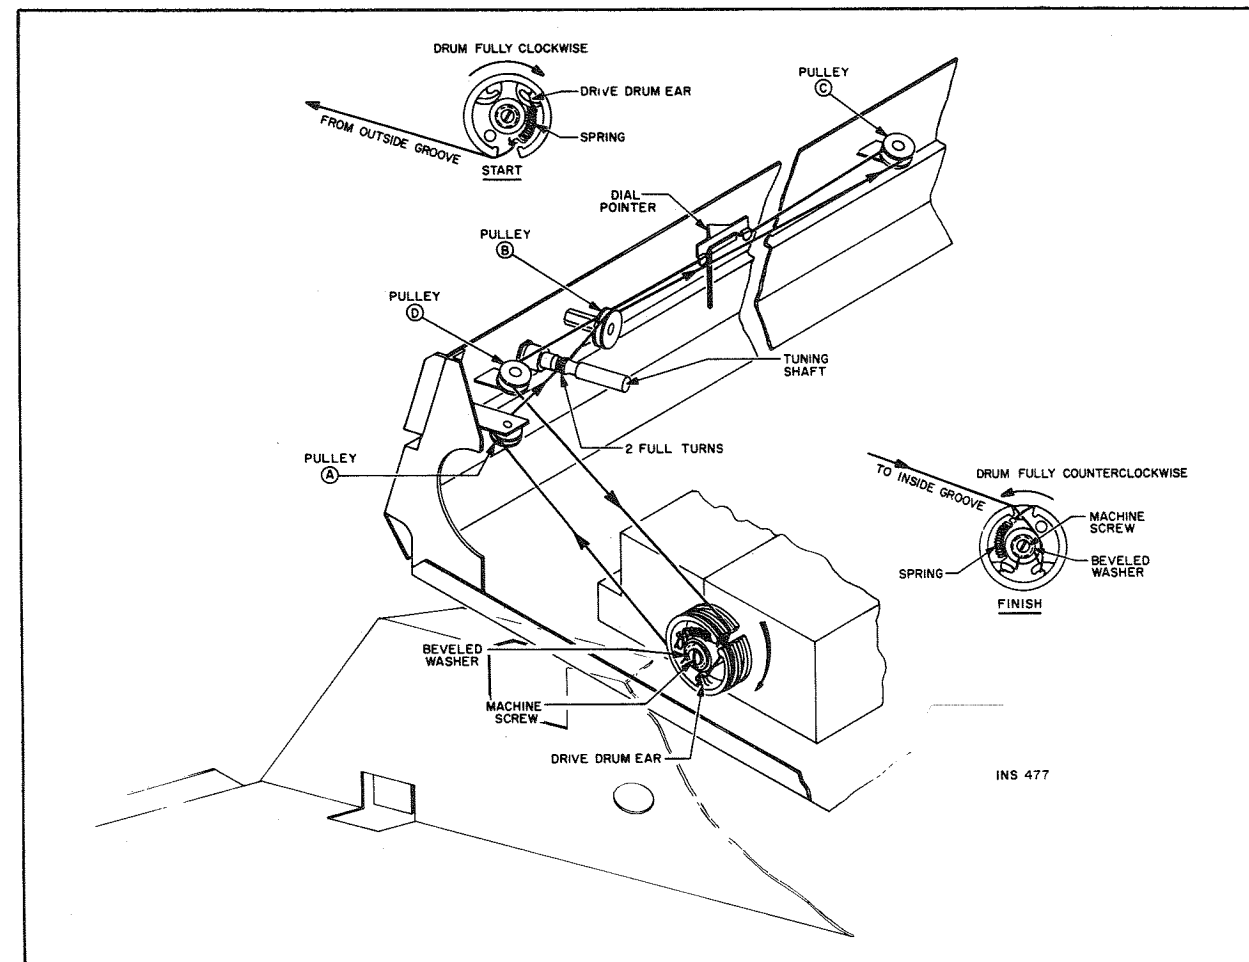

Figure 1.
- (1) Disconnect AC power cord.
- (2) Remove motorboard. Refer to REMOVING MOTORBOARD procedure.
- (3) Remove dress panel. Refer to REMOVING DRESS PANEL procedure.
- (4) Prop the unit on its back panel. Remove the two slotted screws (near the feet) which hold the extension chassis to the main chassis.
- (5) Set the unit on its feet. Lift the extension chassis and pull forward. Swing the extension chassis away from the main chassis (at the front) to provide access to the tuning drive-drum.
- (6) Remove the dial pointer from the dial cord.
- (7) Rotate the tuning capacitor drive-drum to its maximum CW position. Loosen the machine screw in the center of the drum and remove the old dial cord.
- (8) Tie end of new dial cord to one end of dial spring. Fasten to top right ear inside drive-drum. See Figure 1.
- (9) Run the dial cord through the slot in the rim of the drum and set in the bottom of the outside groove. Guide the dial cord around pulley "A", across and underneath the tuning shaft. Wrap 2 full turns (CCW viewed from back) around the tuning shaft.
- (10) Guide the dial cord over pulley "B", across the front, around pulley "C", and back and around pulley "D". Keep the dial cord taut during this procedure.
- (11) Rotate the drive-drum to its maximum CCW position, allowing the cord to wind onto the drive-drum. Keep the dial cord taut during this procedure.
- (12) Run the dial cord over the top of the drive-drum (in inside groove) and into the rim slot. Bring the cord around the drive-drum ear and place the cord under the beveled washer.
- (13) With the machine screw loosened, pull the dial cord taut and tighten the screw.
- (14) Turn the tuning shaft to rotate the drive-drum fully CW and fully CCW to distribute the tensioning along the dial cord. Repeat steps (13) and (14) until spring is tensioned.
- (15) Place the dial cord over and under the tabs on the rear of the dial pointer, and place the pointer on the top of the rail.
- (16) Turn the tuning shaft fully CCW. Slide the dial pointer to zero (0) calibration mark on the logging scale while holding tuning shaft fully CCW. Cement dial pointer to dial cord to prevent slippage. Allow cement to thoroughly dry. Check dial calibration. Refer to FM FRONT END ALIGNMENT.
- (17) Reconnect extension chassis. Dress audio cables away from tuning drive-drum.
- (18) Reinstall the dress panel.